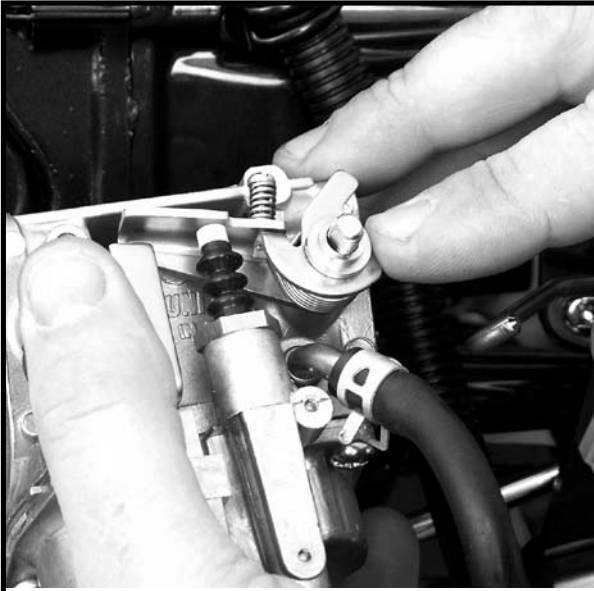

Figure 10
2. Brass Shoulder Washer (Figure 10)
Re-assemble the lever assembly starting with the throttle arm first. Be sure that the return spring gets wound down to engage the lever, as it was before the arm was removed. Re-assemble the remaining pieces using figures 10, 11, 12, and 13
Install Brass Shoulder Washer. See figure 10.